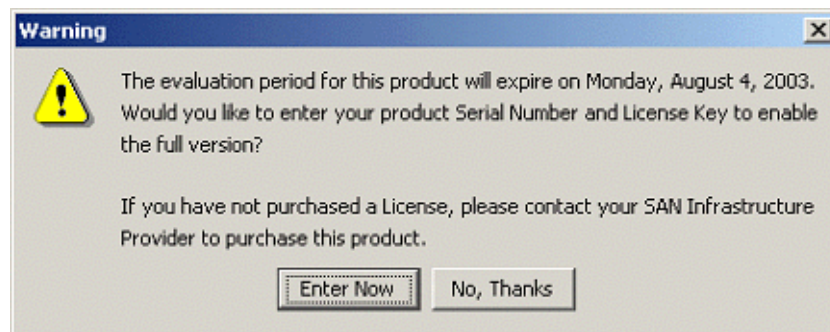

Figure 2-1 Fabric Manager Evaluation Installation Version Warning
Every time you launch Fabric Manager, a warning message displays, notifying you when the evaluation installation will expire and giving you the option to register Fabric Manager or continue with the evaluation version (see Figure 2-1).
- Click **Enter Now** from the warning message that displays when you launch Fabric Manager every time during the 60 day evaluation period (see Figure 2-1). You will need to enter your serial number and license key.